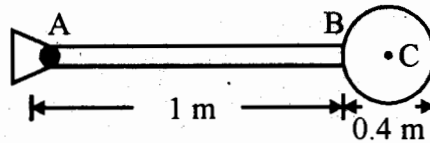

Fig. 8
- (a) A cylinder weighing 500 N is welded to a 1.0 m long uniform bar of 200 N as shown in Fig. 8. Determine the acceleration with which the assembly will rotate about point A, if released from rest in horizontal position determine the section at A at this instant.